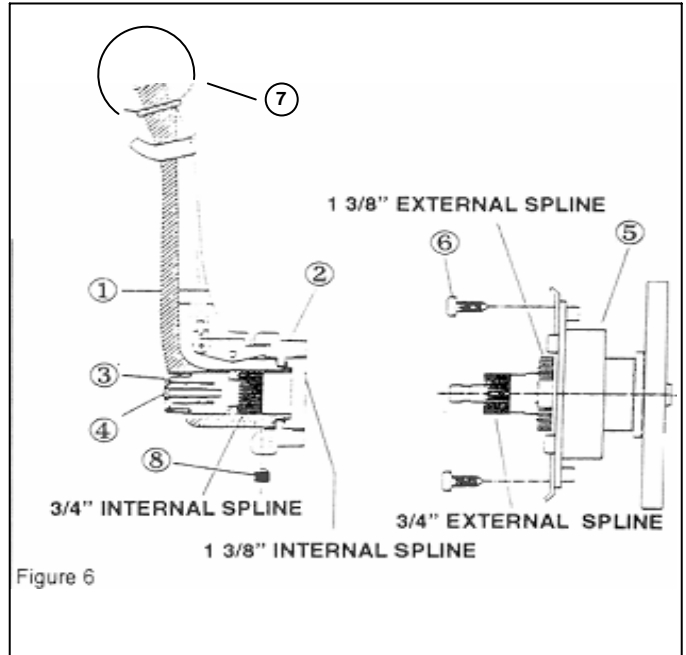

Figure 6
Once the mechanism has been securely mounted, the handle assembly may be attached to the control. The handle assembly contains two (2) sets of internal splines; one (1) on the chrome locking ring, and one (1) on the black handle. There are two (2) sets of mating external splines on the mechanism; one (1) on the cast housing and one (1) on the steel shaft. Each set of splines contains forty-eight (48) teeth and both sets of the 1 3/8" splines and 3/4" splines are consistently oriented to the other (See Figure 6).